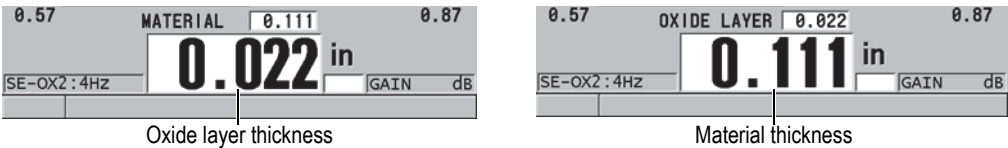

Figure 7-3 Selecting which measurement appears with the larger font
- c) In **LARGE FONT**, select which measurement appears in the larger font in the measurement screen (see Figure 7-3 on page 112).